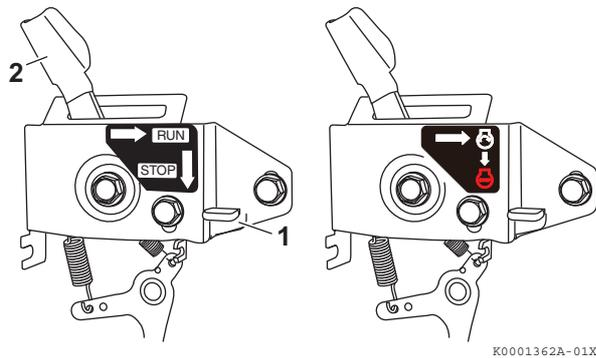

Figure 19
2. If your engine speed control is similar to **Figure 19** press the STOP button (**Figure 19, (1)**) and the engine speed control lever (**Figure 19, (2)**) will automatically return to the STOP position.